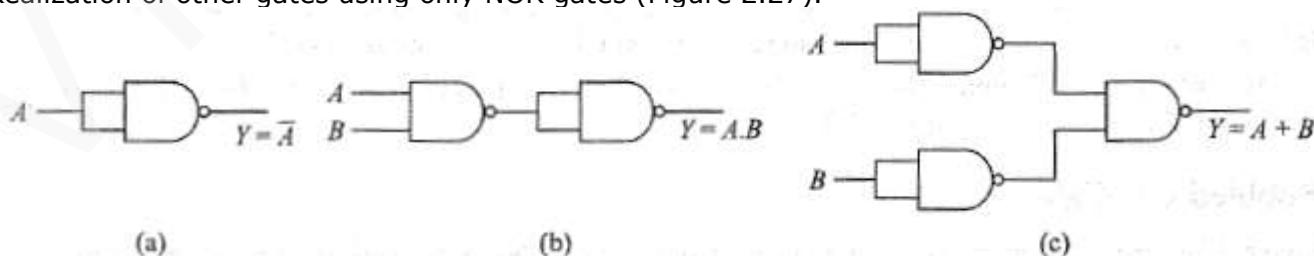
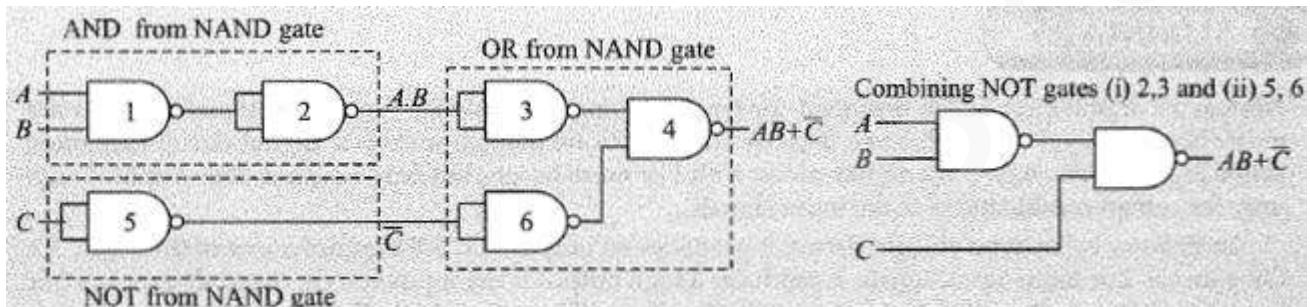

Figure 2.27: Universality of NAND gate (a)NOT from NAND (b)OR from NAND (c)AND from NAND
Figure 2.42: Realization of $Y=AB+C'$ using only NAND gate
- Realization of other gates using only NOR gates (Figure 2.27).
In Method-2, we realize it using NAND gate. We realize individual logic operations like AND, NOT and OR as depicted in Fig. 2.27. The solution is given in Fig. 2.42.